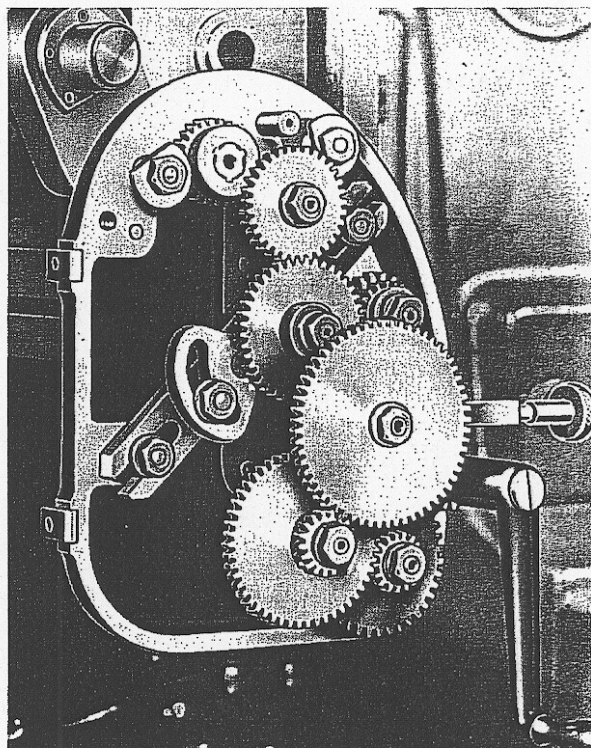

Figure 59A
**Low Lead Attachment.** May be obtained at extra cost for the CINPAK® 45, CINEL® 60, and CINOVA® 80 Universal Machines only (Figure 59A). Complimentary parts must be built into the machine at the factory. It is driven from a splined shaft and has a lead range of  $\frac{1}{8}$ " to 100" (high series same as tables on pages 76 to 92; low series are these leads divided by 20). Complete instructions are contained in a separate booklet "Table of Low Leads— $\frac{1}{8}$ " to 100" Dividing Head Driving Mechanism for CINCINNATI® Milling Machines," a copy of which accompanies each machine equipped with the Low Lead Attachment.